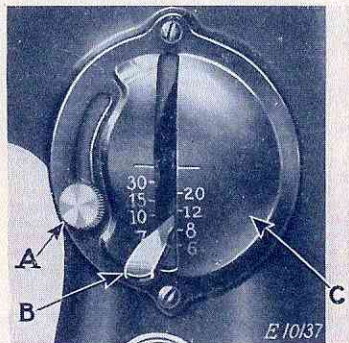

FIG. 14. SHOWING LEVER FOR REVERSING DIRECTION OF FEED AND REGULATING LENGTH OF STITCH
To feed the goods **from you**, push down the stitch regulator lever (B, Fig. 14) as far as it will go.
The machine can be adjusted to make from 6 to 30 stitches to the inch as indicated by the numerals on the stitch indicator plate (C, Fig. 14).
The number of stitches to the inch that the machine is set to make is indicated by the number which is in line with the upper side of the stitch regulating lever (B, Fig. 14).
To change the length of stitch, loosen the thumb screw (A, Fig. 14) and move it to the bottom of the slot, Then move the stitch regulating lever (B) until its upper side is in line with the number of the desired length of stitch. Now move the thumb screw (A) until the stitch regulating plate touches the lever (B), then tighten the thumb screw (A).